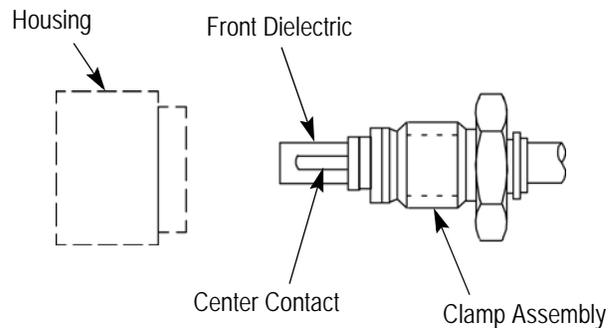

Figure 6
1. Assemble front dielectric onto center contact as shown in Figure 6.